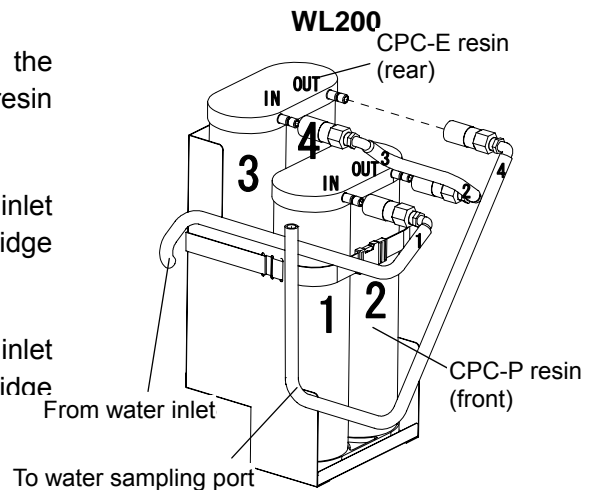

Fig.06
- (1) Press the coupler with (4, OUT) mark into the outlet (right side) of the ion exchange resin cartridge (CPC-E) till it clicks.
- (2) Press the coupler with (3, IN) mark into the inlet (left side) of the ion exchange resin cartridge (CPC-E) till it clicks.
- (3) Press the coupler with (1, IN) mark into the inlet (left side) of the ion exchange resin cartridge (CPC-P) till it clicks. (See Fig. 06)